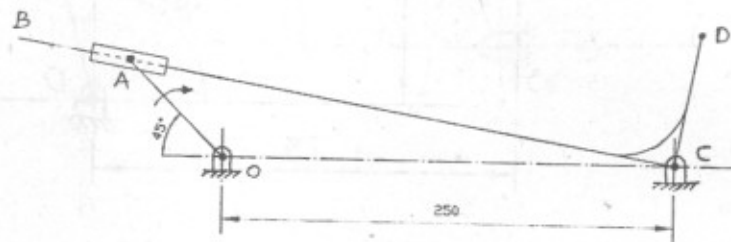

Fig. 4
- (b) The Fig. 4 shows a mechanism in which crank OA is rotating clockwise at 10 rad/s. Slider pivoted at A slides along the rod BC. Link BCD is a rigid bell crank lever pivoted at C. At the instant shown, determine :